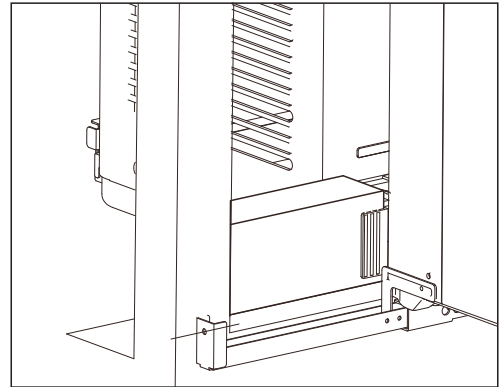

Fig.8
C. Cut the Sealed sponge to proper length for sealing the space between the window and unit. See Fig.8